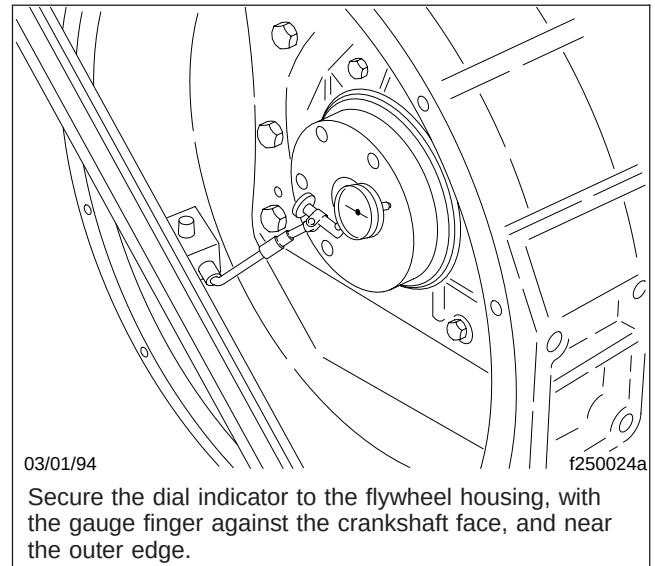

Fig. 6, Measuring the Crankshaft Face Runout
7. Remove the flywheel (see the engine manufacturer's manual), and measure the runout of the flywheel crankshaft face. See **Fig. 6**.